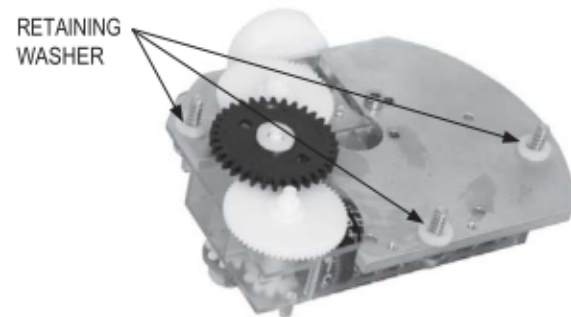

Figure 25. Retaining washers
- (1) Orient the ID gearing and index assembly so the mounting screws line up with the posts in the index base plate.
- (2) Ensure the :
- (3) Tighten the three screws until snug. Do not overtighten.
- (a) Each screw should have a 2mm thick retaining washer to space the ID gearing and index assembly away from the base plate [Figure 25]. The spacers are installed at the factory. Verify they have not fallen off.
- (1) Using compressed air blown into the meter inlet port, confirm the index and ID output shaft rotate freely.